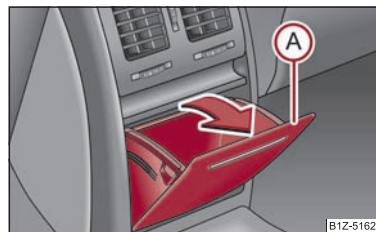

Fig. 99 Centre console at rear: Storage compartment
- Open the storage compartment by pulling on the upper edge of the storage compartment (A) in the direction of arrow ⇒ fig. 99.